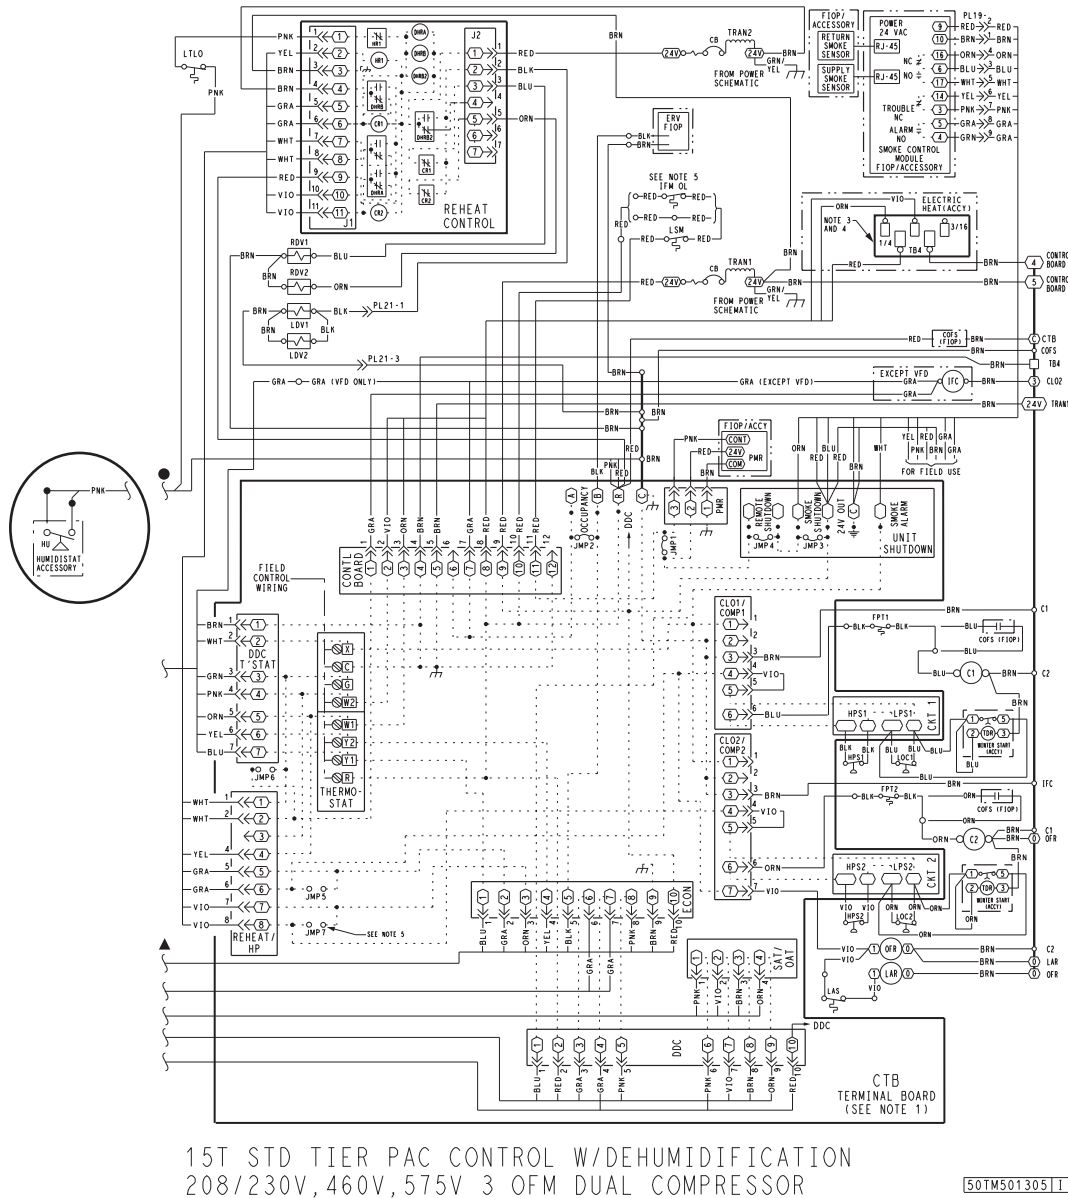

Fig. 63 — Typical Hot Gas Re-Heat Dehumidification System Humidistat Wiring RAS180
5. Use wire nuts to connect humidistat cable to two PINK leads in the low-voltage wiring as shown in Fig. 63.